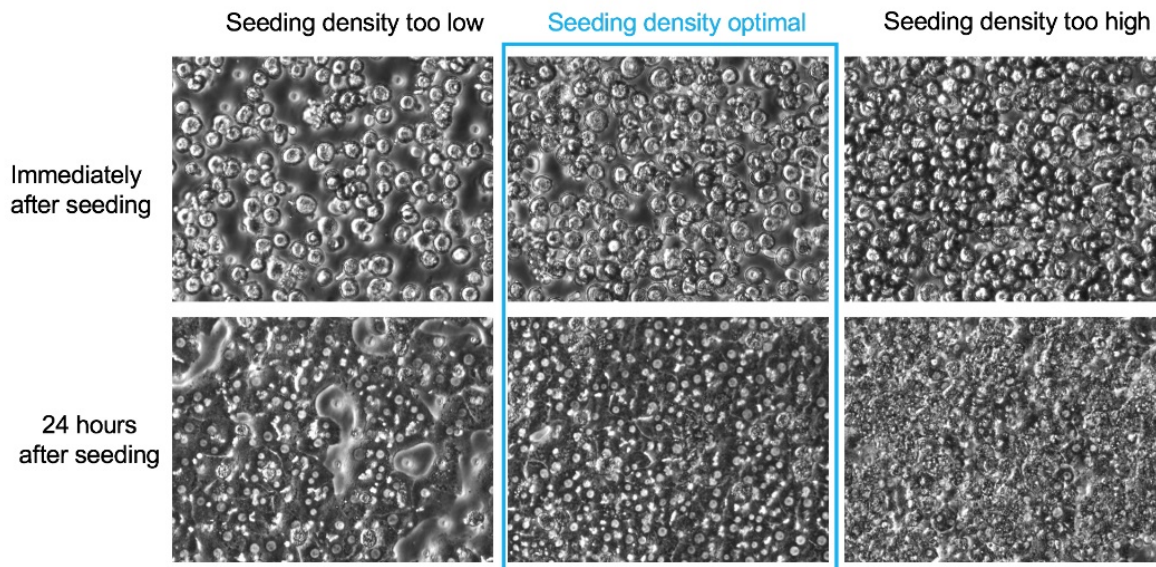

Figure 5: Hepatocyte seeding density reference chart
5. Cover the dish and transfer to the microscope to check the seeding density within the chip. Note: Cells at the optimal seeding density at this stage will form an even cell layer with a distance between individual cells that is about half of a cell radius. (See Figure 5 below.)